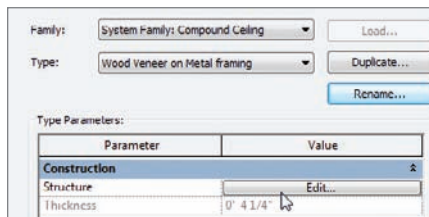

FIGURE 9.18 Clicking the Edit button in the Structure row to gain access to the ceiling's structural composition
6. In the Structure row, click the Edit button, as shown in Figure 9.18.